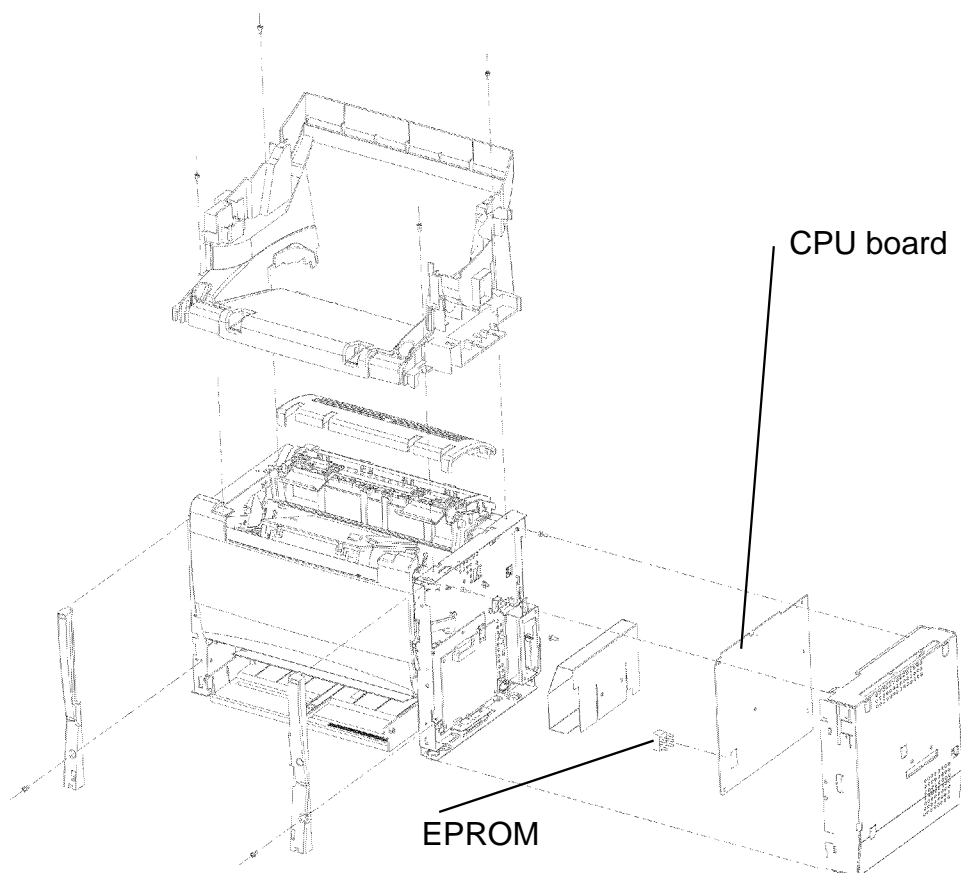

Figure 1
2. Install the EPROM memory from the old CPU board onto the new board (refer to Figure 1).